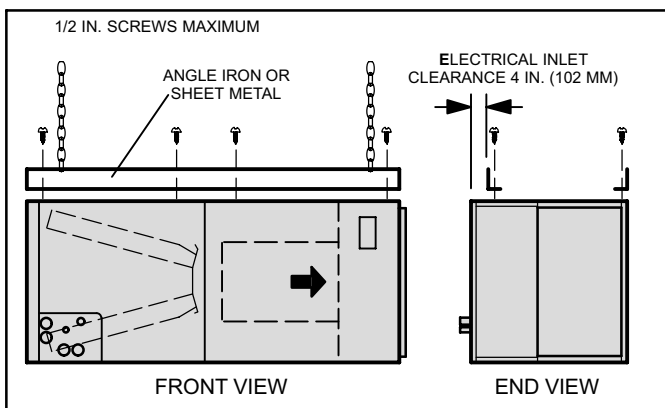

Figure 3. Suspending Horizontal Unit
- If the unit is suspended, the entire length of the cabinet must be supported. If you use a chain or strap, use a piece of angle iron or sheet metal attached to the unit (either above or below) to support the length of the cabinet. Use securing screws no longer than 1/2 inch to avoid damaging the coil or filter as illustrated in figure 3. Use sheet metal screws to connect the return and supply air plenums as required.
13. If suspending the unit, it must be supported along the entire length of the cabinet. If using chain or strap, use a piece of angle iron or sheet metal attached to the unit (either above or below) so that the full length of the cabinet is supported. Use securing screws no longer than 1/2 inch to avoid damage to coil or filter as illustrated in figure 3 on page 5. Connect return and supply air plenums as required using sheet metal screws.